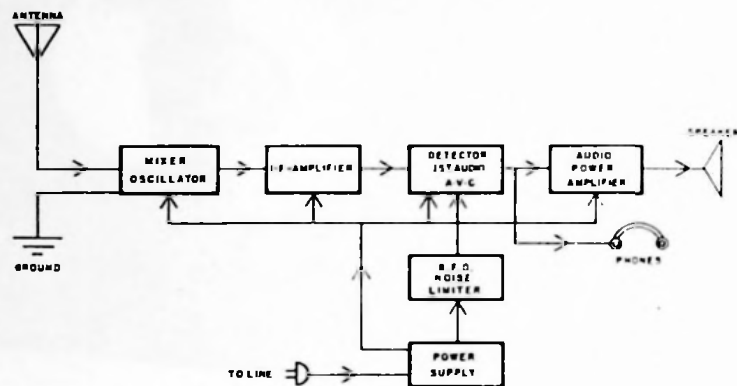

Figure 2. Radio Receiver Model S-38, block diagram showing receiver circuits.
**ELECTRICAL DESCRIPTION.**—The block diagram (Fig. 2) illustrates the function of the receiver circuits in a simple manner which is described as follows: Radio signals are picked up at the antenna and fed to the antenna coil of the mixer stage where the desired station signal is selected by a resonant circuit and fed to the mixer tube. At the same time, the oscillator section of the tube generates a local r-f signal which is mixed with the incoming station signal. An intermediate frequency signal of 455 kc (kilocycles) is selected by the first i-f transformer and fed to the i-f amplifier tube where it is amplified and then fed through the second i-f transformer to the detector-first audio amplifier tube where it is demodulated. The audio component of the signal is then amplified by the triode section of the tube and capacity coupled to the audio power output tube where it is further amplified and fed to the speaker.